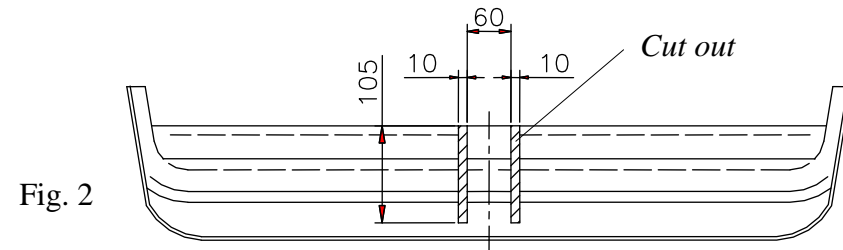

Fig. 2
5. Slide the main bar of the towbar (pos. 1) to chassis members, then fix it using bolts M10x35mm (pos. 4) and big washers (pos. 5).
6. Cut the bumper according to the fig. 2.
8. Fix body of the automat and place tow-ball according to supplied instruction. Note! Remember to place socket plate (pos. 3) as shown on the drawing 1.